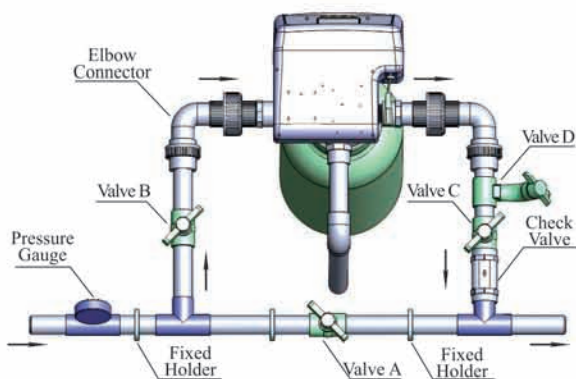

Figure 1-2
② Pipeline connection
- As figure 1-2 shows, install a pressure gauge in water inlet.